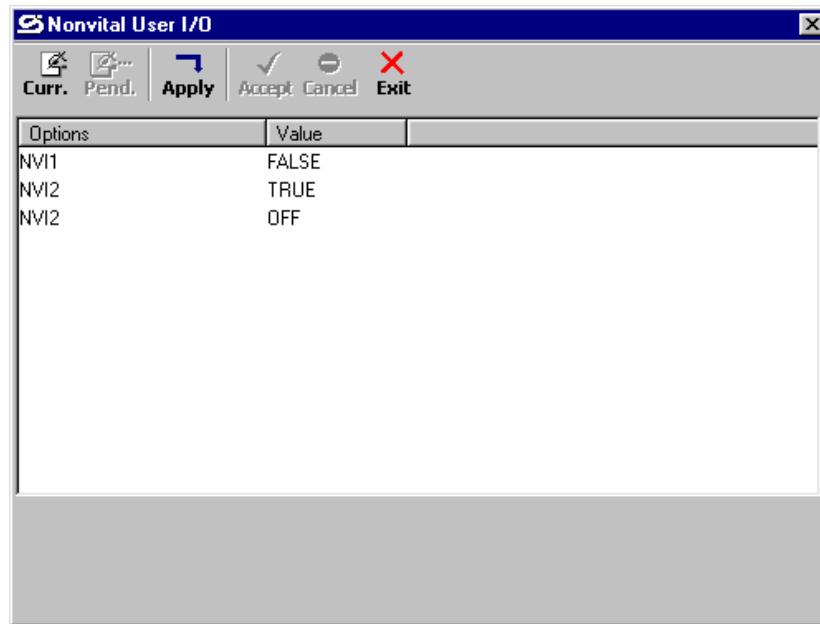

Figure 3-53
4. After all value changes are completed using the process just described, select the **Apply** button at the top of the display (refer to figure 3-53). The GDT processes the changes and uploads them to the GEO™ CIC where they become effective immediately. There are no pending values for Non-Vital User I/O.